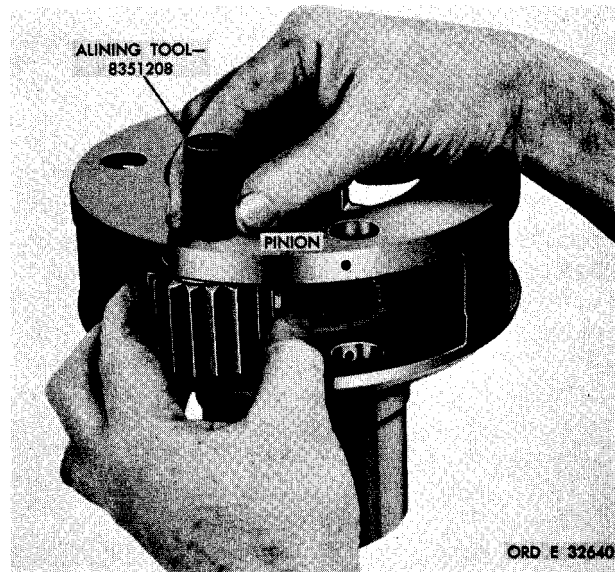

Figure 221. Alining pinion and component parts in planetary carrier
g. Slide pinion 30 and its related parts into location in carrier 27 from which it was removed. Using alining tool 8351209, align the pinion, washers and rollers. Refer to fig. 221. Remove the alining tool.
**\*CP** g. Slide the pinion, with its related parts into the location in the carrier 18 from which it was removed. Using alining tool 8351208, aline the pinion, rollers, spacers and washers. Refer to fig. 221. Remove the alining tool.